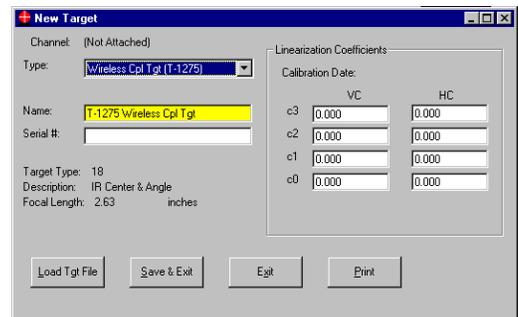

Figure 27 – Defining the T-1275 IR Coupling Target
1. Click the **New Target** button on the **Target Setup** screen to display the **New Target** screen (see Figure 27).